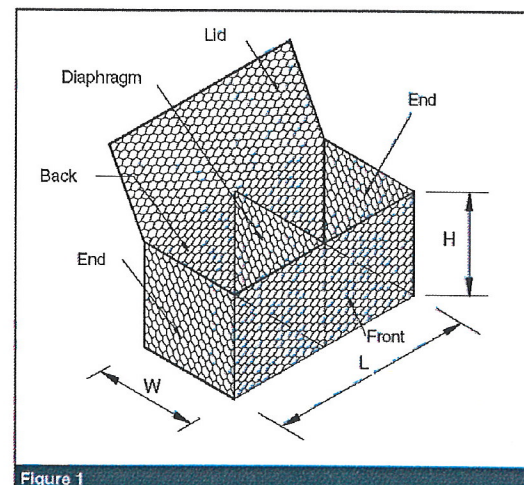

Figure 1
Gabions are baskets made of double twisted steel woven wire mesh, as per EN 10223-3 (Figs. 1, 2). Gabions are filled with stones at the project site to form flexible, permeable, monolithic structures such as retaining walls, channel linings, and weirs for erosion control projects.
The gabion is divided into cells by means of diaphragms positioned at approximately 1m centers (Fig.1). In order to reinforce the structure, all mesh panel edges are selvaged with a wire having a greater diameter (Table 3). Dimensions and sizes of Galfan + Polymer coated gabions are shown in Table 1.
- size of units (length x width x height, see Fig.1),